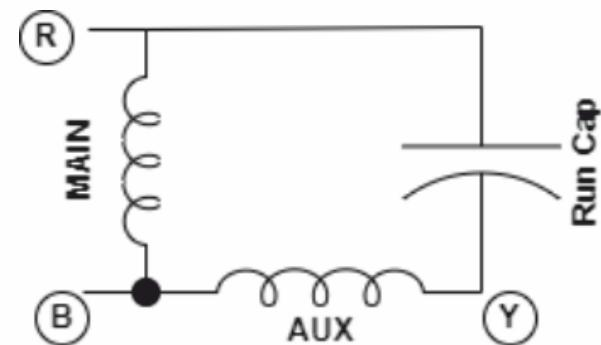

Fig 6.9 Connection diagram for Single phase IM to KUSPC
- Connect KUPSC 2.0 as per the fig. 6.9